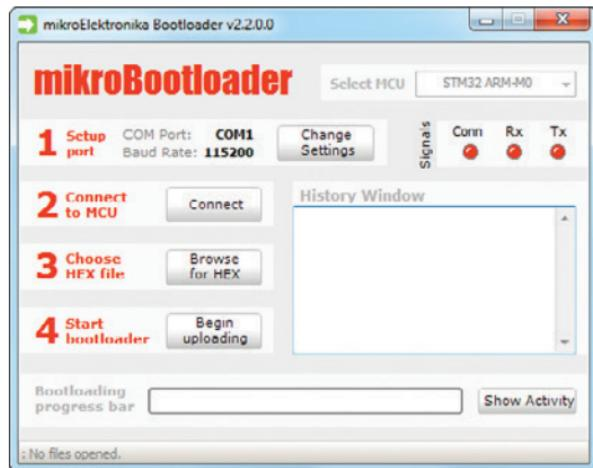

Figure 2-1: mikroBootloader window
- When you start mikroBootloader software, a window as shown in **Figure 2-1** should appear